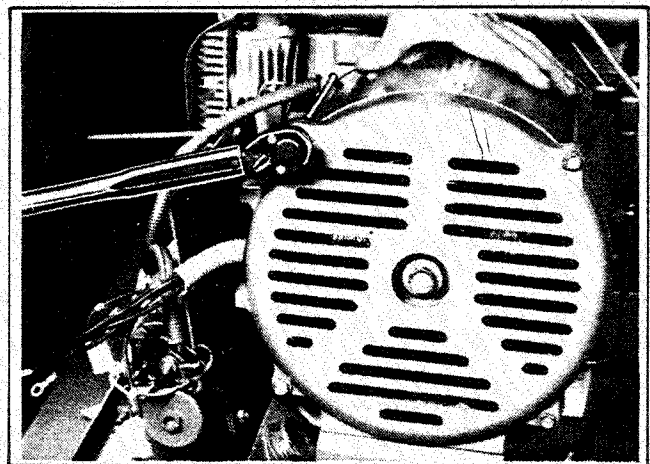

Figure 8-17. Torquing Overbolts
- Replace the four overbolts which secure the end bracket and stator to the adapter plate. Torque overbolts to 70 in.lbs. (8Nm). Figure 8-17.